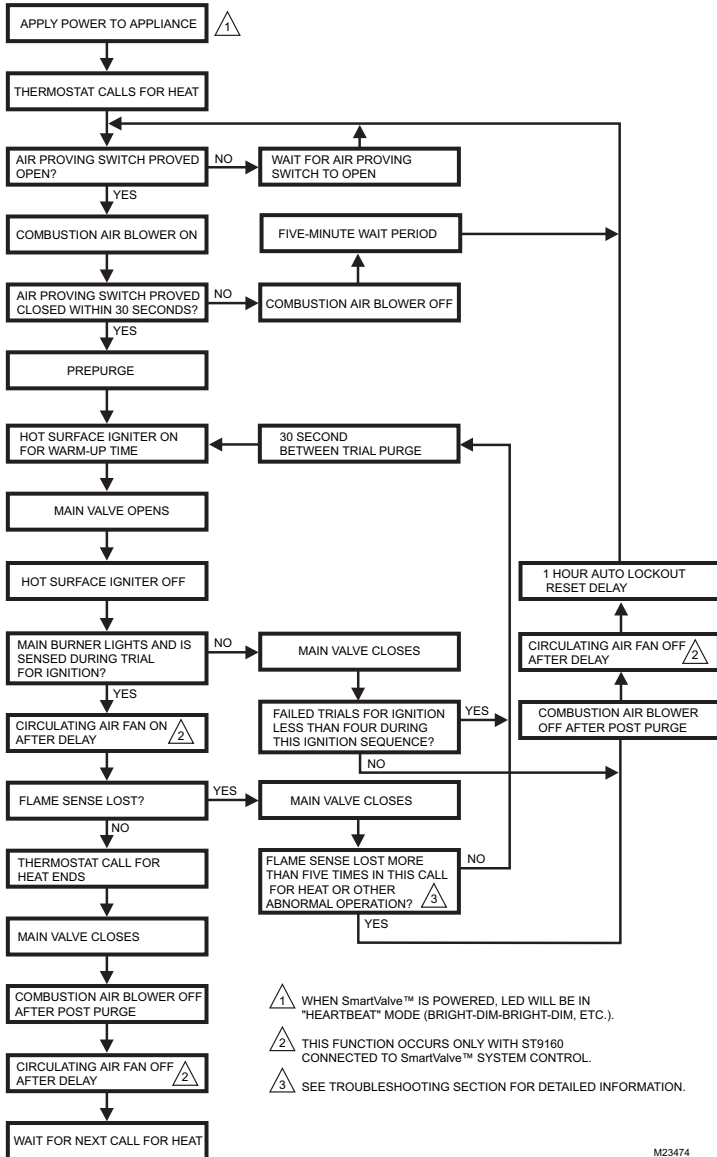

Fig. 11. SV9510/SV9520 sequence of operation.
2. Follow the sequence of operation as shown in Fig. 11.
5. Observe the ignition sequence; comparing it to the Sequence of Operation shown in Fig. 11. Allow the new ignition sequence to proceed until appliance lights or an abnormal or unexpected event is observed. See next section.
6. Observe the appliance operation, comparing it to the Sequence of Operation shown in Fig. 11. Allow the ignition sequence to proceed until the appliance lights or an abnormal or unexpected event is observed.